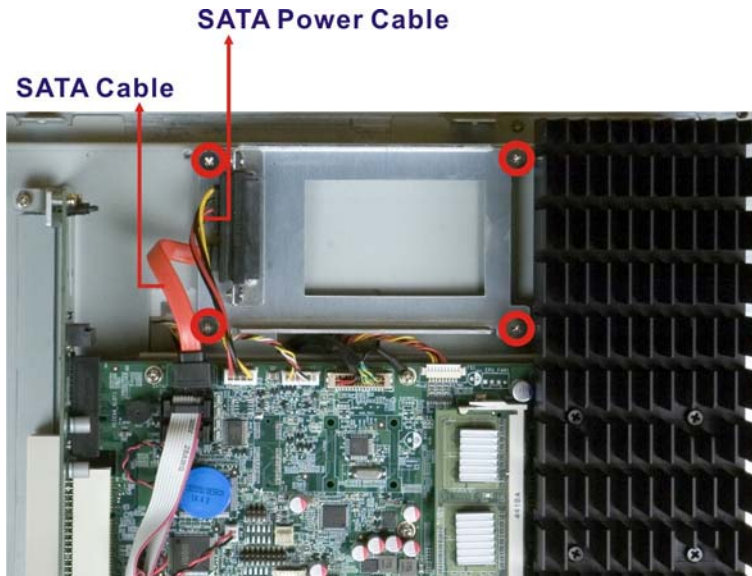

Figure 3-4: HDD Bracket Retention Screws
Step 2: Remove the four HDD bracket retention screws and unplug the SATA cable and the SATA power cable from the motherboard. See **Figure 3-4**.